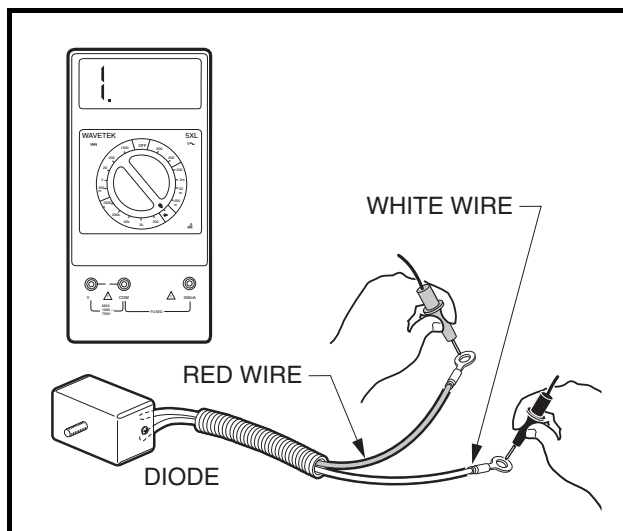

Figure 11-20 Diode Test
- 3.3. Remove the locknuts (7) from the two large solenoid posts and disconnect the diode wires from the solenoid.
4. With the multimeter set to the diode test function (→←), connect the black (–) probe of the multimeter to the white lead of the diode and the red (+) probe of the multimeter to the red lead of the diode (**Figure 11-20, Page 11-21**). The reading should indicate an overload (no continuity). A diode is designed to conduct current in one direction only. If a diode conducts current (shows continuity) with the meter probes as described, the diode has failed and must be replaced. **See Diode Removal, Section 12, Page 12-22.**